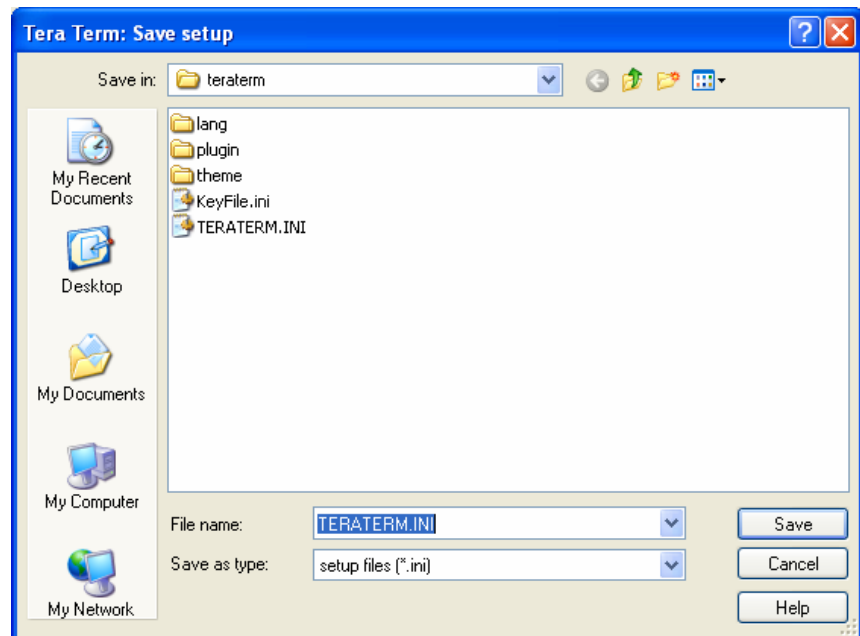

Figure 6-22: Tera Term Save Setup Screen
24. At the Save setup screen, click **Save** (Figure 6-22).